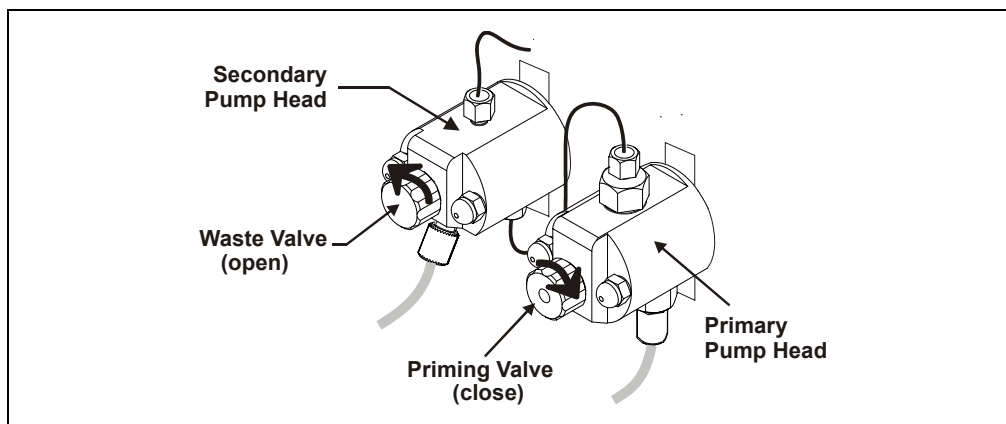

Figure 25. Priming the Pump
1. Check that the priming valve on the primary pump head is closed (see Figure 25).
2. Open the waste valve on the secondary pump head by turning the knob one-quarter to one-half turn counterclockwise (see Figure 25). Opening the valve directs the eluent flow path to waste and eliminates backpressure.